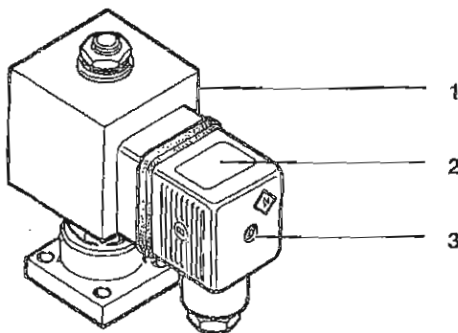

Fig. 18 Solenoid valve plug
- Prior to **first** operation or operation subsequent to repair work operate unit for at least 10 minutes with open condensate valves (pressureless) to ensure proper lubrication of all parts before pressure is built up. To keep drain valves open, loosen screw (3, Fig. 18) on coil (1) and pull plug (2) from solenoid valve.